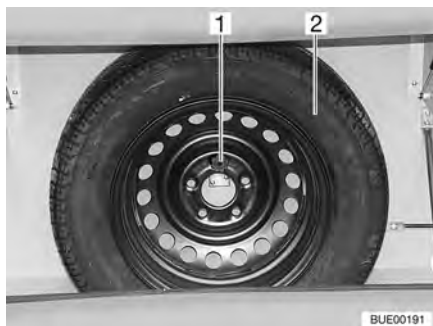

Fig. 220 Spare wheel support
The spare wheel support is fitted in the gas bottle compartment. The spare wheel (Fig. 220,2) is available for a surcharge.
- Undo bolt (Fig. 220,1).
- Remove the spare wheel (Fig. 220,2).